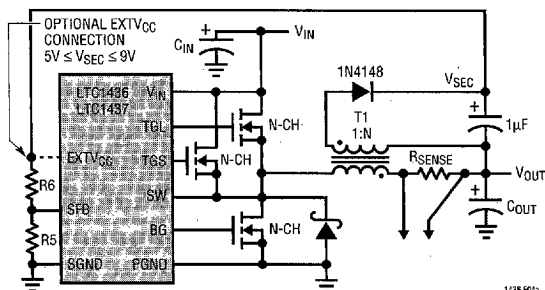
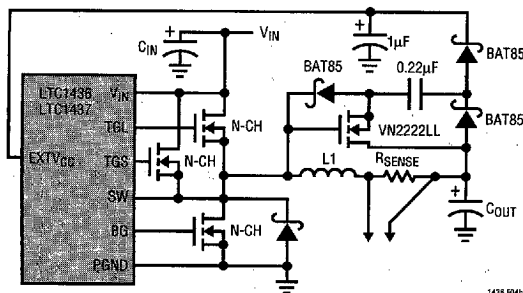

Figure 4a. Secondary Output Loop and EXT_VCC Connection
Figure 4b. Capacitive Charge Pump for EXT Vcc
3. EXT_VCC connected to an output-derived boost network. For 3.3V and other low voltage regulators, efficiency gains can still be realized by connecting EXT_VCC to an output-derived voltage which has been boosted to greater than 4.8V. This can be done with either the inductive boost winding as shown in Figure 4a or the capacitive charge pump shown in Figure 4b. The charge pump has the advantage of simple magnetics.
The secondary output voltage is set by the turns ratio of the transformer in conjunction with a pair of external resistors returned to the SFB pin as shown in Figure 4a. The secondary regulated voltage V_{SEC} in Figure 4a is given by: